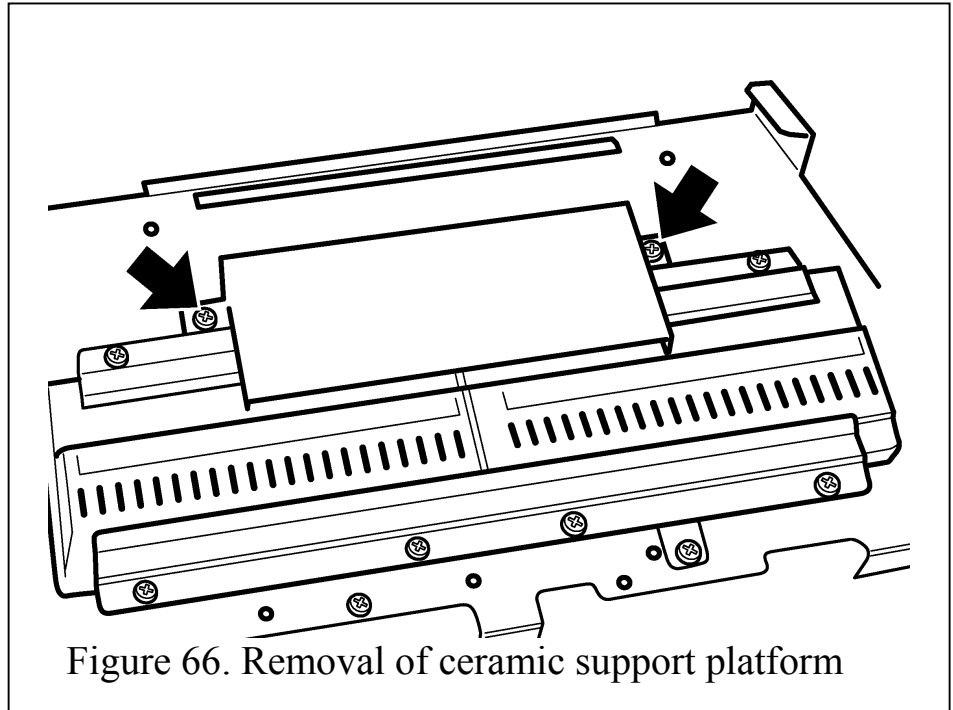

Figure 66. Removal of ceramic support platform
4. Remove the ceramic support platform by detaching 2 screws (See figure 66)